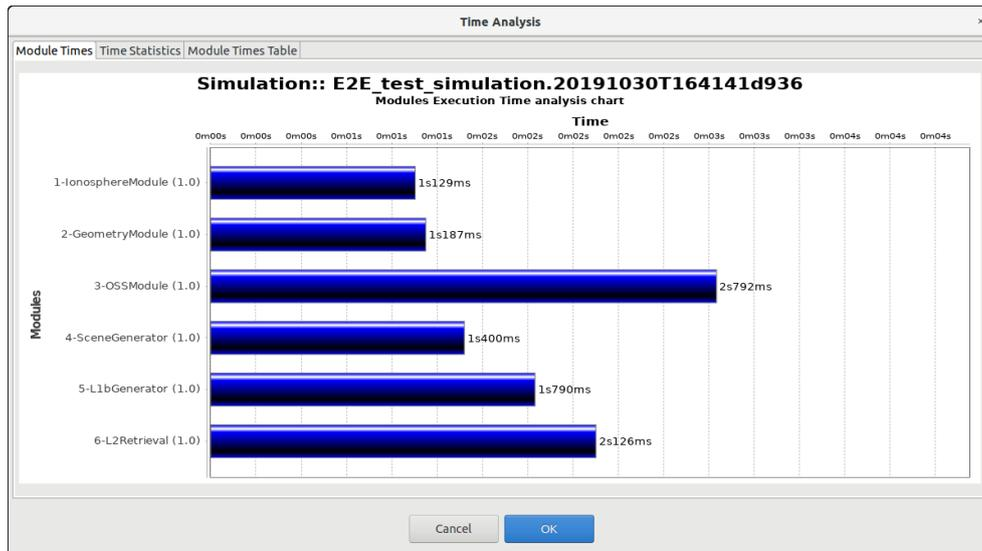

Figure 4-53: Bar graph showing module times
- ❑ *Module Times* tab: presents the module execution time in a bar chart graph¹⁰. See Figure 4-53.